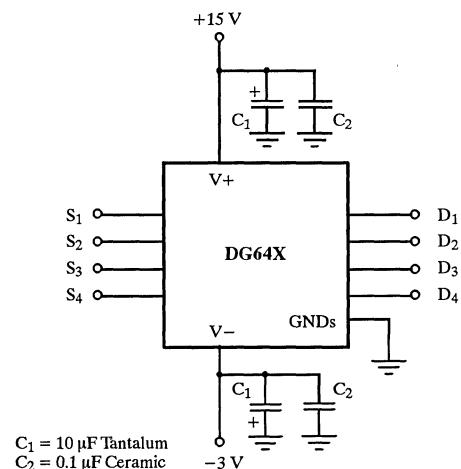

Figure 7. Supply Decoupling
1. Decoupling capacitors should be incorporated on all power supply pins (V_+ , V_-). (See Figure 7).